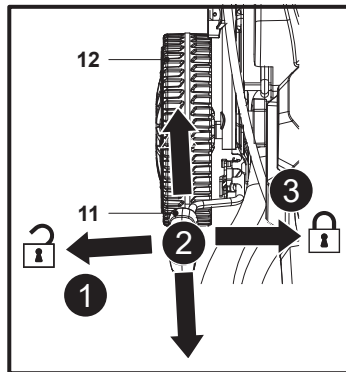

Fig. 11
1. Pull the lever for cutting height adjustment (11) towards the rear wheel (12) (Fig. 11, step 1).
2. Move the lever (11) forward or backward to adjust the cutting height (Fig. 11, step 2).
3. Release the lever (11) and ensure it engages in the slot properly (Fig. 11, step 3).